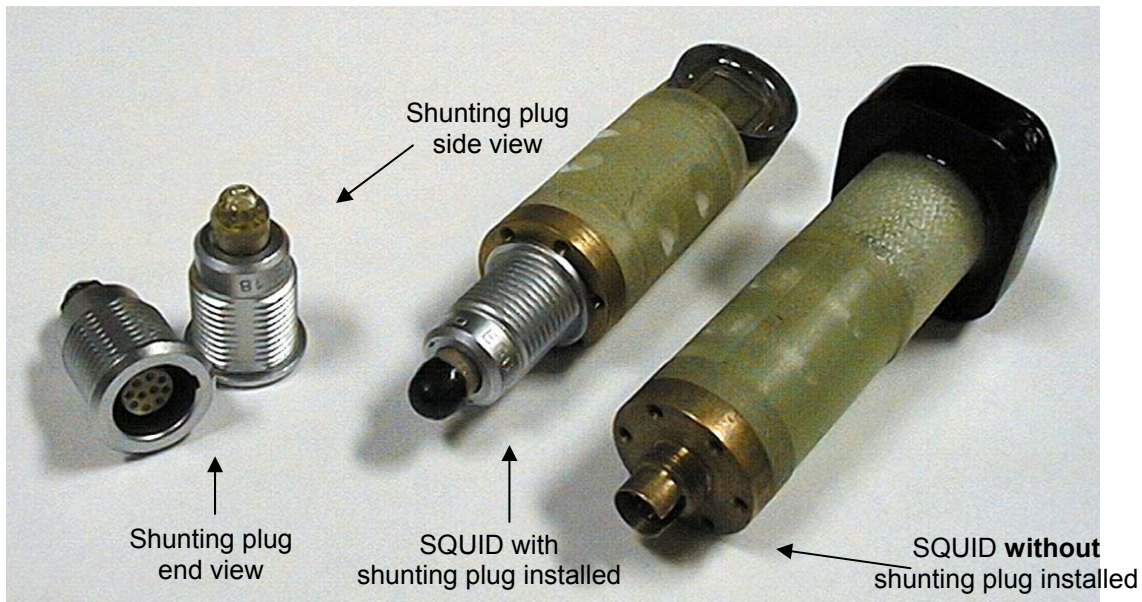

Figure 19 Shunting Plugs
- Connect the shunting plug at the top connector when the SQUID is not in use for extended periods and always for shipment. See Figure 19.